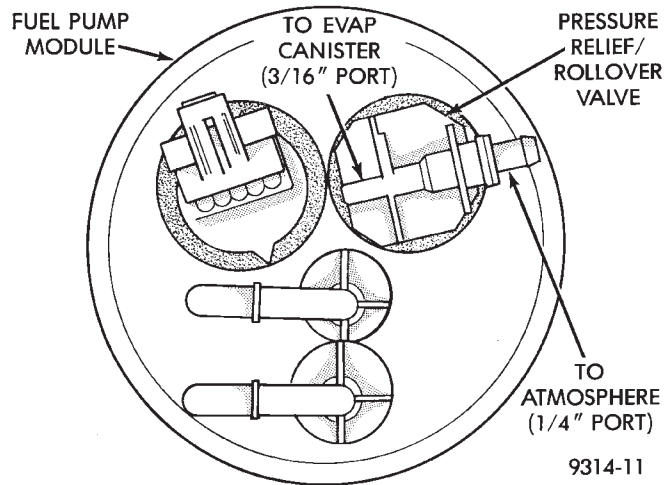

Fig. 49 Pressure Relief/Rollover Valve—Typical ACCELERATOR PEDAL
- (1) Install the rubber grommet in the fuel pump module.
- (2) Lubricate the grommet with a light coating of **Power Steering Fluid**. Push the valve downward into the grommet. Twist valve until the ports are properly positioned (Fig. 49).
- (3) Install fuel pump module. Refer to Fuel Pump Module Installation in this section.